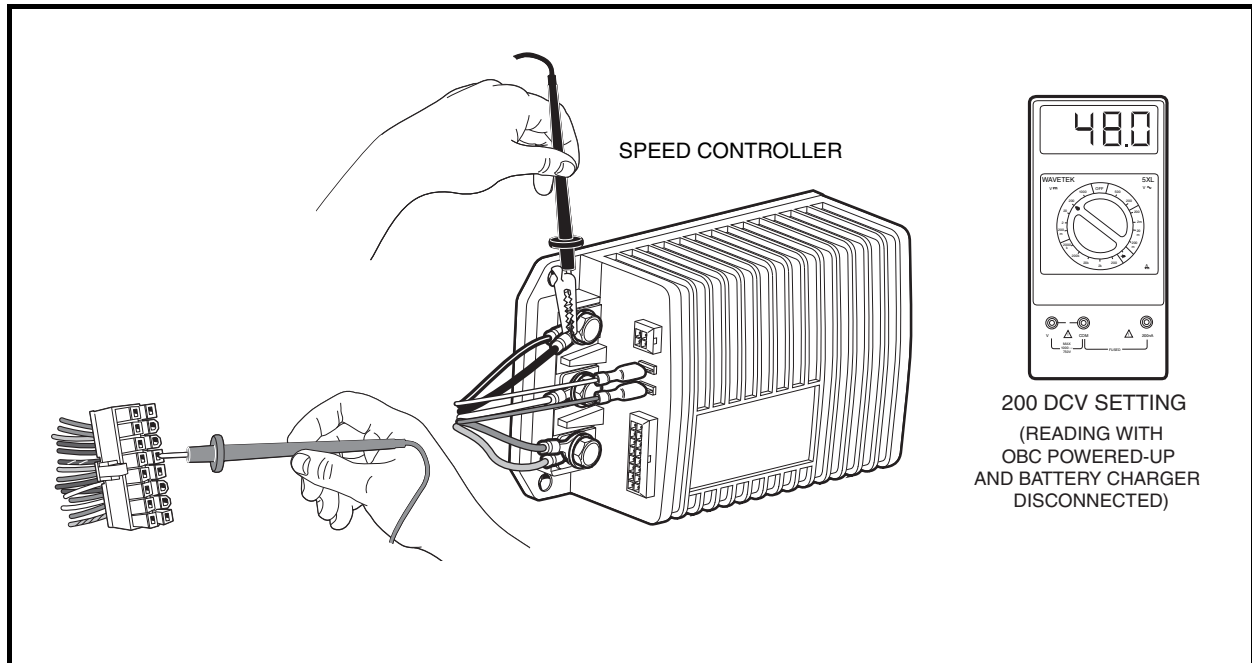

Figure 11-15 Pin 5 Test
4. Set a multimeter to 200 volts DC. Insert the red (+) probe of the multimeter into pin 5 (light blue wire) of the 16-pin connector. **See following CAUTION.** Using an alligator clip, connect the black (–) probe to the B– terminal of the speed controller (**Figure 11-15, Page 11-28**).